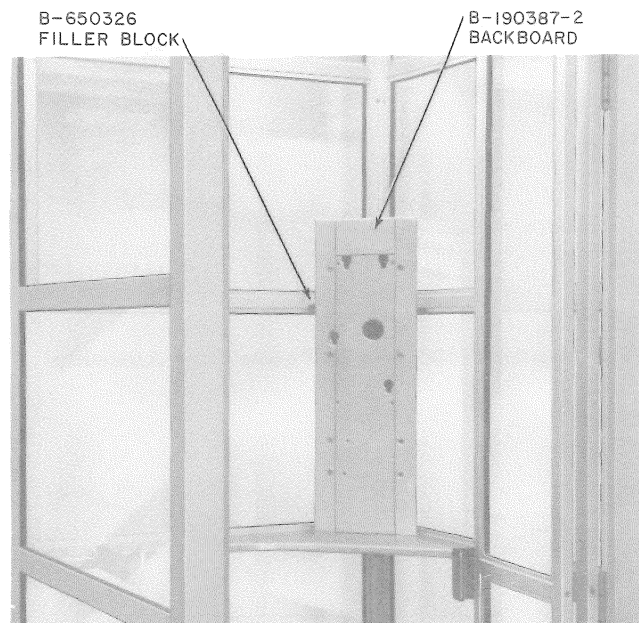

Fig. 15—KS-16797 Booth With B-190387-2 Backboard Installed
- (b) *B-190387-2 backboard (Fig. 15)*